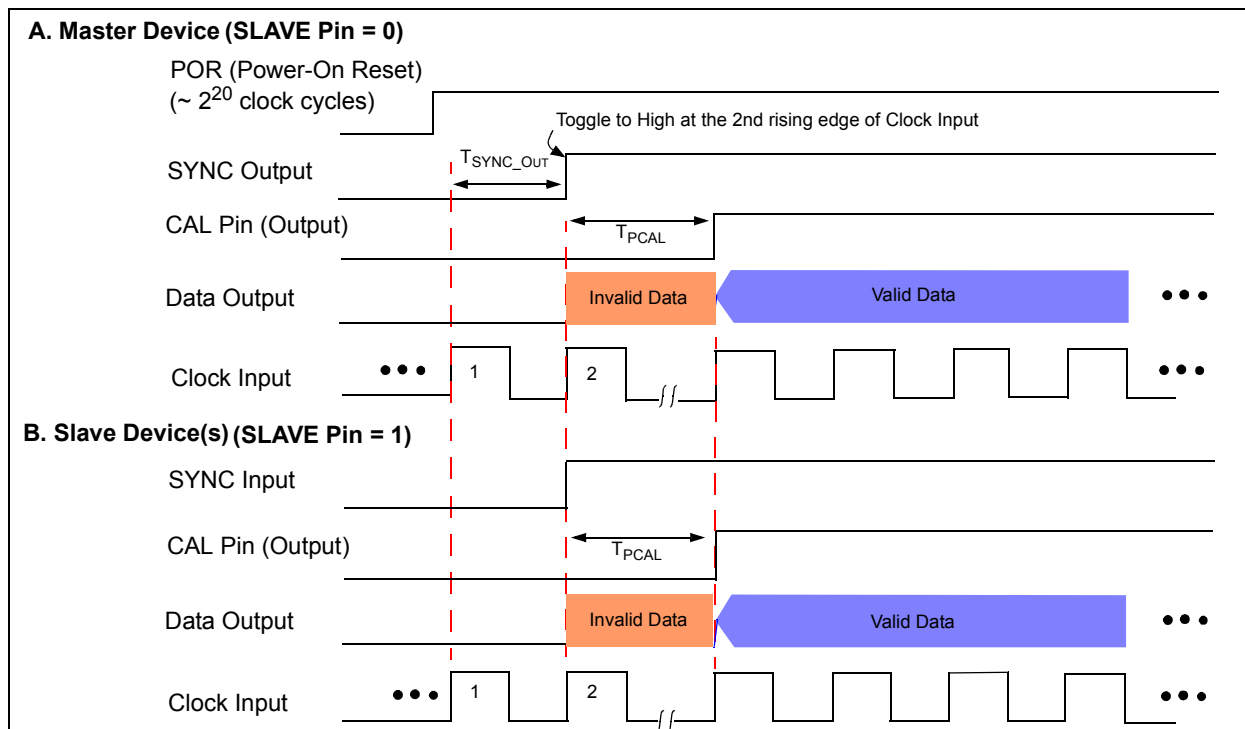
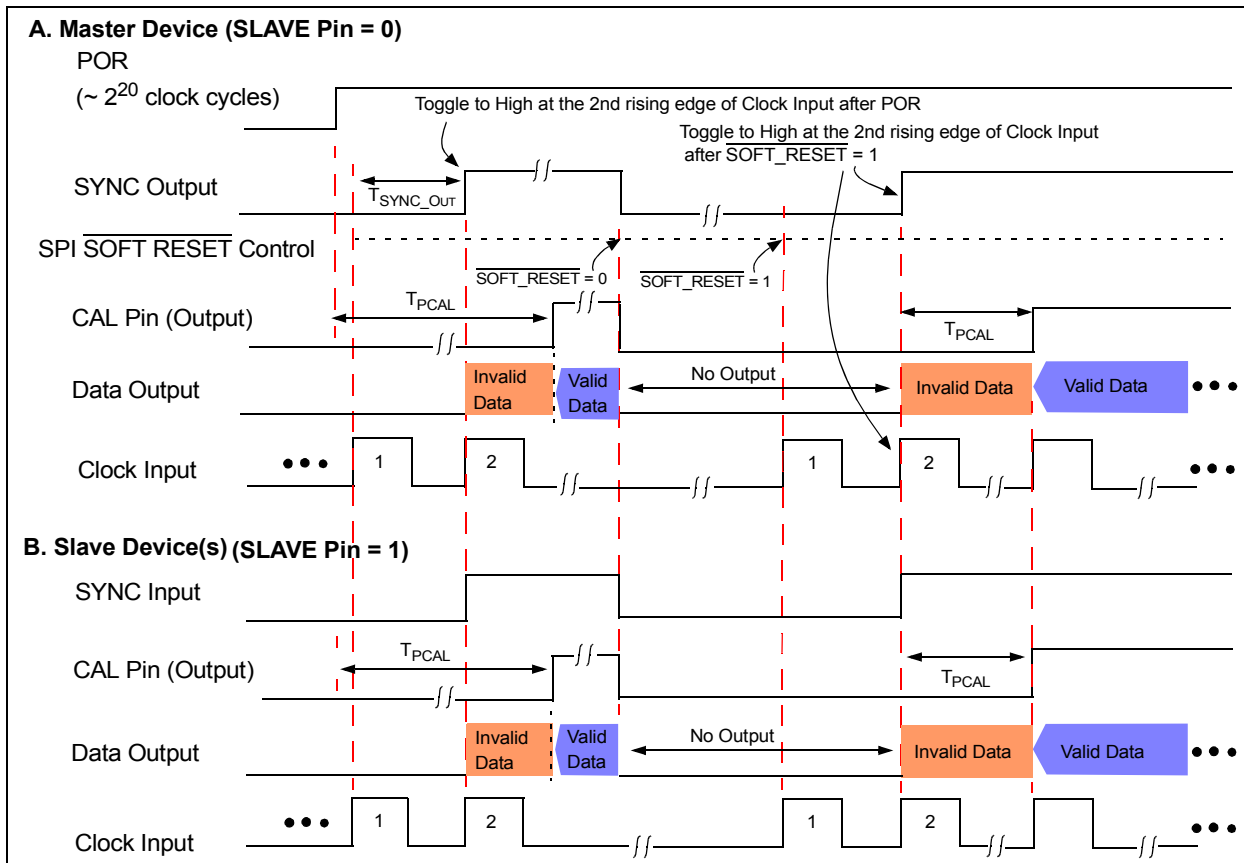

FIGURE 2-9: Sync Timing Diagram with Power-On Reset.
FIGURE 2-11: Sync Timing Diagram with SOFT_RESET Bit Setting.
- Note 6:** Characterized with a single slave device. The maximum ADC sample rate for AutoSync mode may be reduced if multiple slave devices are used. See Figure 2-9 - Figure 2-11, and Figure 4-27 for details.